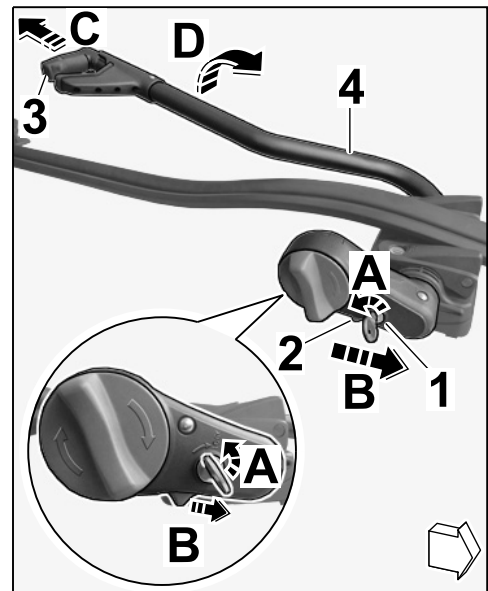

Figure 12
- 5.1.1 Open the frame holder (claw) in the pivoting support tube (⇒ *Figure 12-C-*): Open the lock on the rotary knob (⇒ *Figure 12-A-*) and press the button (⇒ *Figure 12-B-*).
- 5.1.2 Swivel support tube with frame holder (claw) upwards (⇒ *Figure 12-D-*).